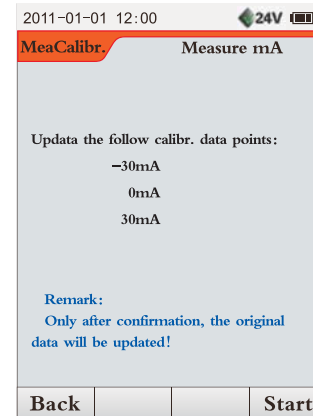

Figure 9.19 Current measure calibrate
b) As Figure 9.19, the calibrator will prompt the calibration points of the present item (-30mA , 0mA , 30mA) .